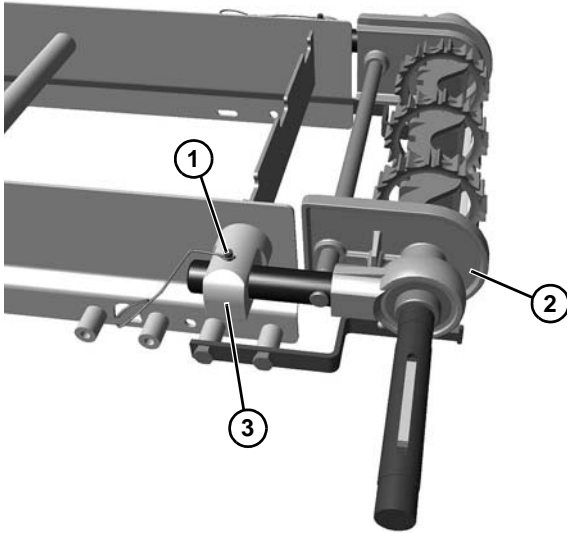

Figure 53
5. Remove the pull pin (**Figure 53, item 1**) from both sides of drive tail assembly.
6. Slide the drive tail assembly (**Figure 53, item 2**) out of the take up blocks (**Figure 53, item 3**).